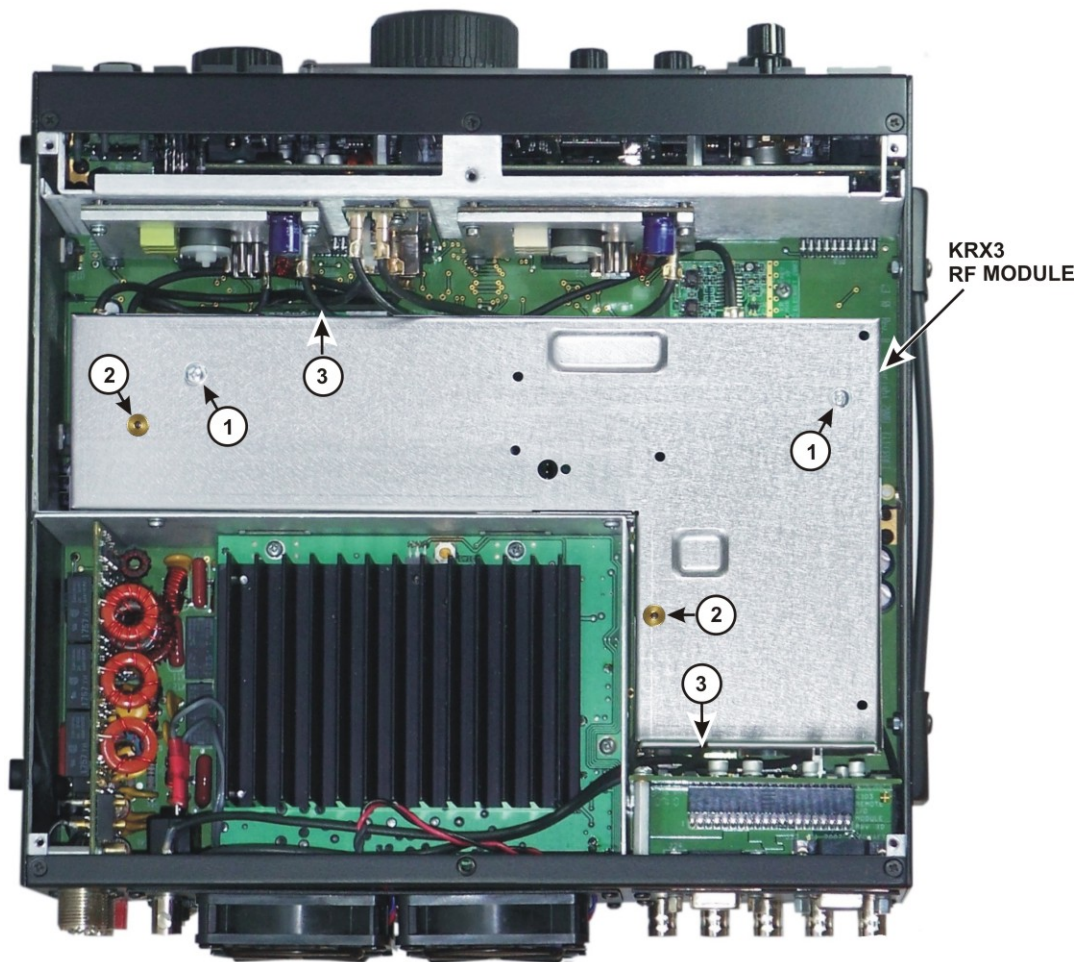

Figure A-4. Removing the KRX3 RF Module.
The crystal (roofing) filters in the KRX3 subreceiver are contained in the L-shaped RF module mounted above the main K3 RF board (see Figure A-4). Installing or changing the filters involves removing the RF module and the circuit board inside. The filters plug into the circuit board and are held in place by screws. No soldering is required.
- Remove the KRX3 RF module as follows. The circled numbers refer to Figure A-4 below.
- Remove the two long screws (1) that attach the KRX3 enclosure to the K3 main board.
- Grip the knurled nuts (2) and lift the KRX3 enclosure up and out of the K3. The enclosure will unplug from two interface boards (3), one near the front and the other at the back. Also there will be two coaxial cables attached to the forward edge and usually one cable attached at the back of the enclosure. Carefully unplug these cables holding onto the metal finger grip, not the black coax. The connectors are held by friction and slide apart. They do not unscrew.
- Remove the two small interface boards (3) that plug into the board on the bottom of the K3 and the KRX3 enclosure. The boards may still be attached to the K3 main board or may be attached to the connectors on the KRX3 RF module. Set them aside in an ESD-safe place.
- Place the KRX3 RF enclosure on your work table. Remove the two knurled nuts (2) and lift the top half of the KRX3 RF enclosure off of the lower half